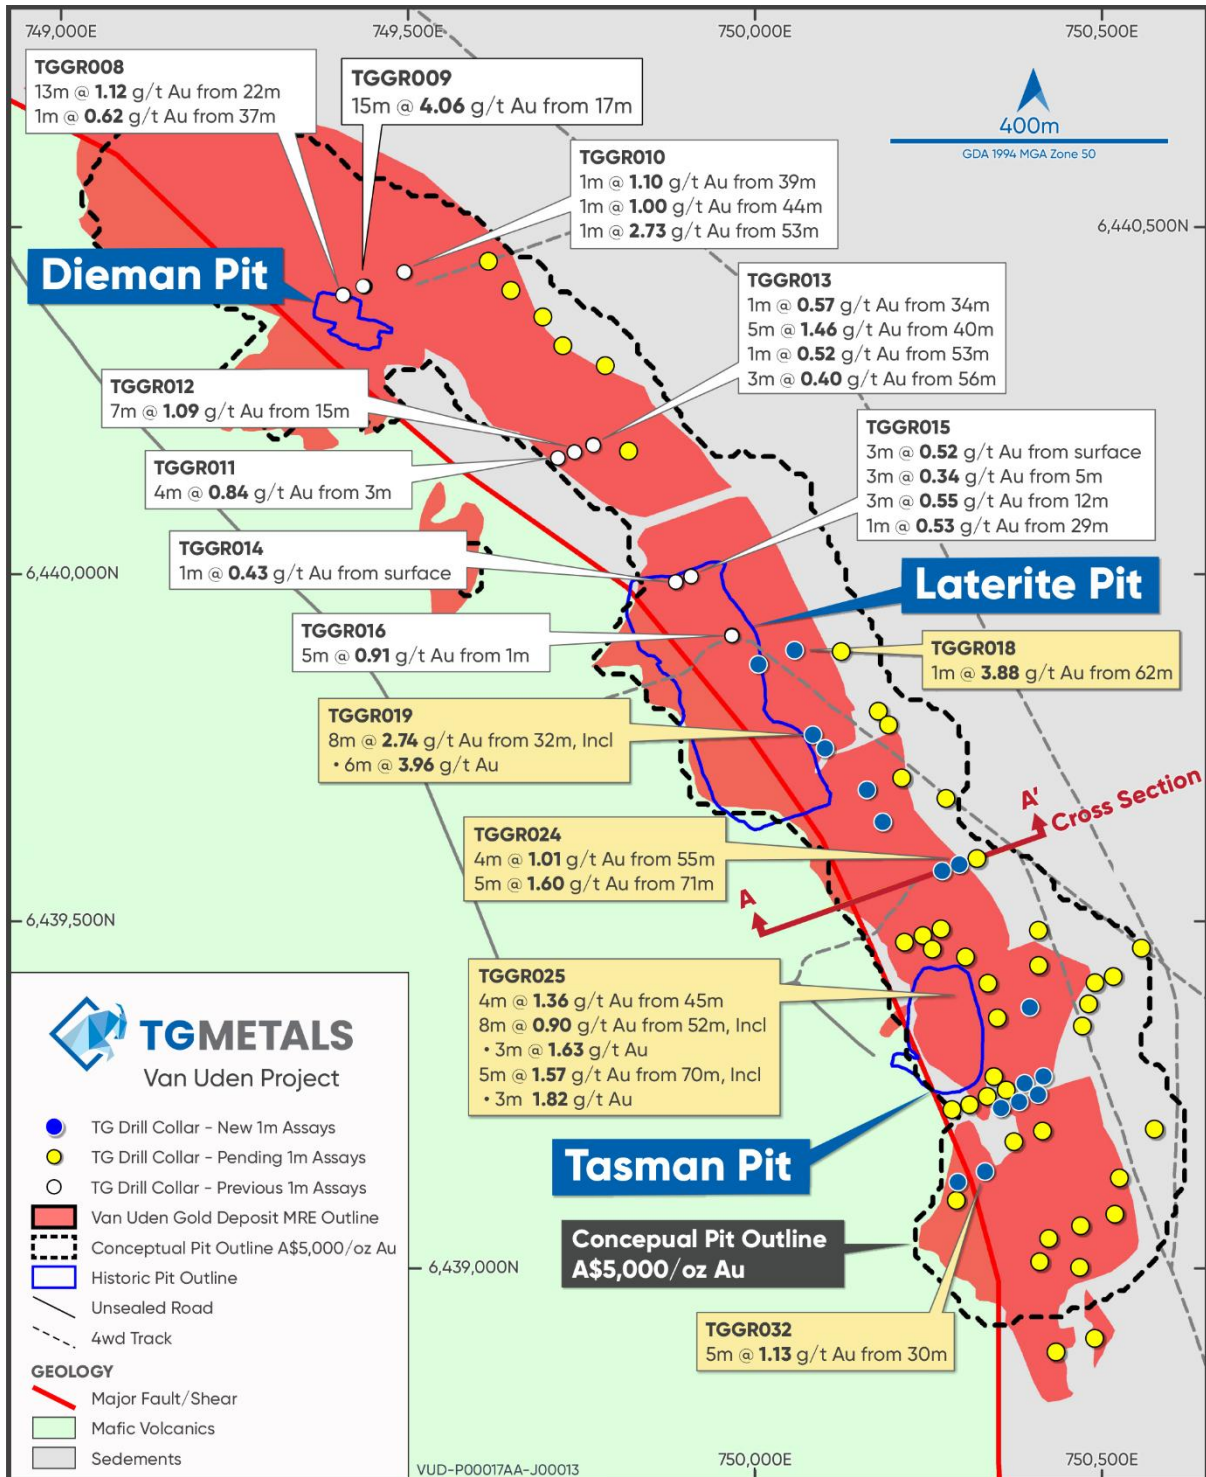

Figure 1 – New Resource Drilling Collars Showing Select Intercept Highlights (New Results in Yellow) and Pending Assays
These results are from the shallow reverse circulation (RC) drillholes in the central and southern areas of the Van Uden gold deposit (**Figure 1**), targeting resource expansion and geological understanding between previous drill lines and down dip. Many holes intersected multiple gold zones in each drillhole. Result highlights include:
The ongoing purpose of this drilling campaign is to expand on the current Van Uden mineral resource estimate (MRE) via infill and down dip extensions and provide data to improve geological understanding. These results are from the central and southern parts of the Van Uden deposit, **Figure 1** shows the location of the drillholes.
The reported drilling is in the central and southern areas within the vicinity of the current MRE. Additional drilling has been completed throughout the resource area with assay results pending. See **Figure 1** for drill collar locations.
Assays are also pending for several drillholes at the Van Uden deposit, Figure 1 shows the collar locations of drilling with pending assays in this area.